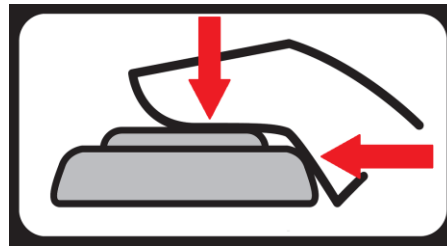

Figure 4. Bridging the pushbutton and its surrounding metal ring when performing a test
3. Push down and hold the test switch until the test results are displayed. Ensure that your finger also makes contact with the metal ring around the pushbutton when performing a test. See Figure 4.